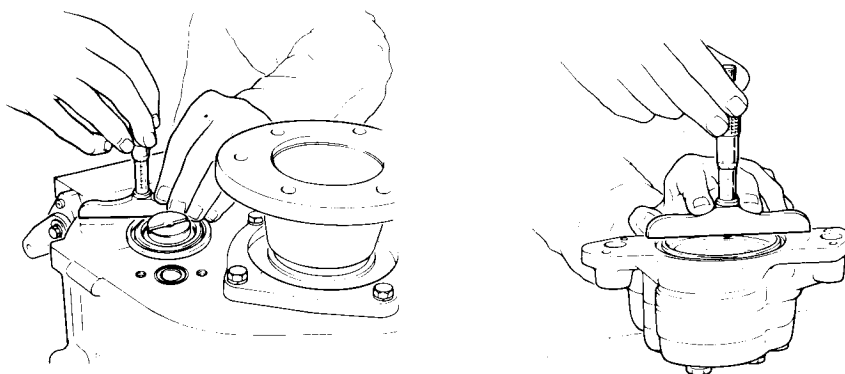

Fig. 15. Shimming Procedure
1. Press the bearing outer cup firmly into position and measure between the face of the gearcase and the top of the bearing outer as shown in Fig. 15.